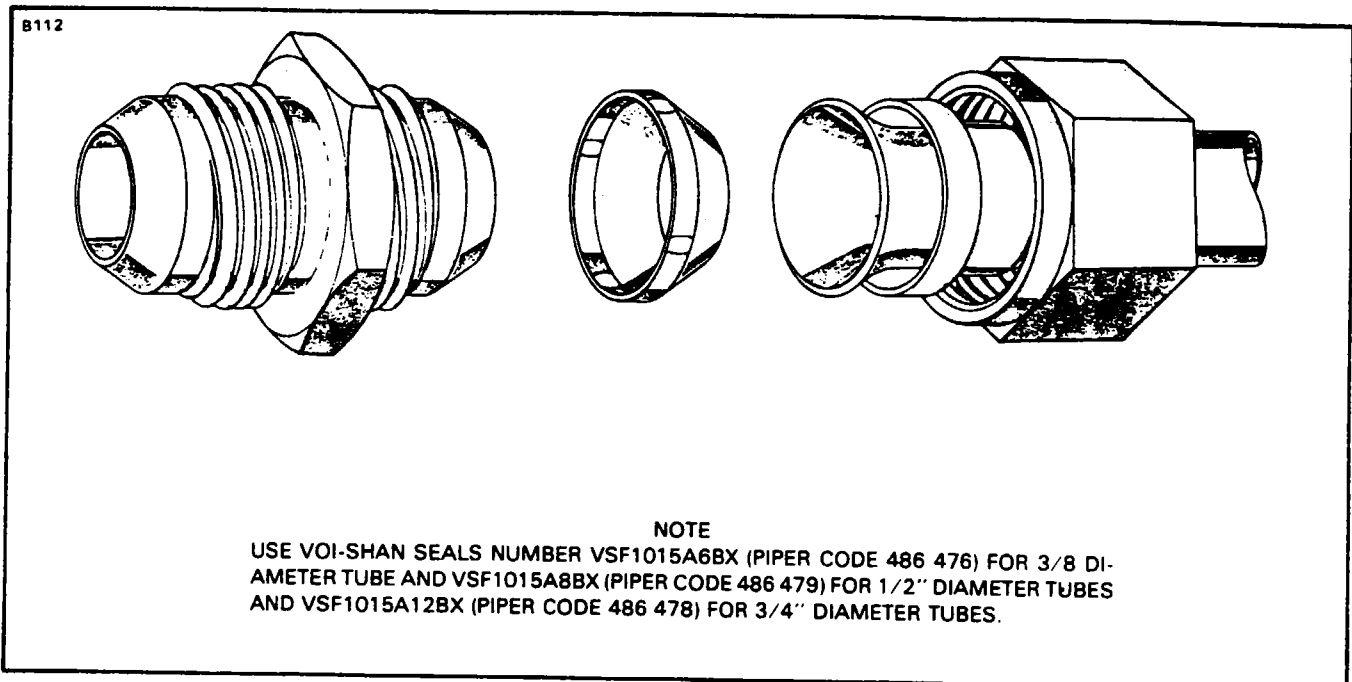

Figure 14-37d. Installation of Voi-Shan Seals
- b. Flared fittings are sometimes difficult to seal. On the hard-to-get-at fittings, it may be necessary to install Voi-Shan seals. (Refer to Figure 14-37d.) To install the seal, place seal over the nipple end and place tube flare over seal and nipple. Tighten per the procedure given in Paragraph a, except tighten only once.